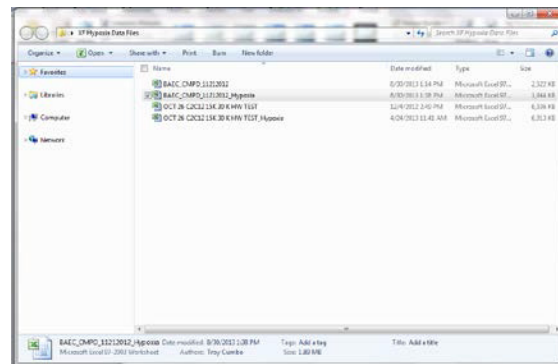

Figure 9. New file with recalculated rate data.
10. The new file will have the same name as the original file, but the word *hypoxia* will be appended at the end (Figure 9).